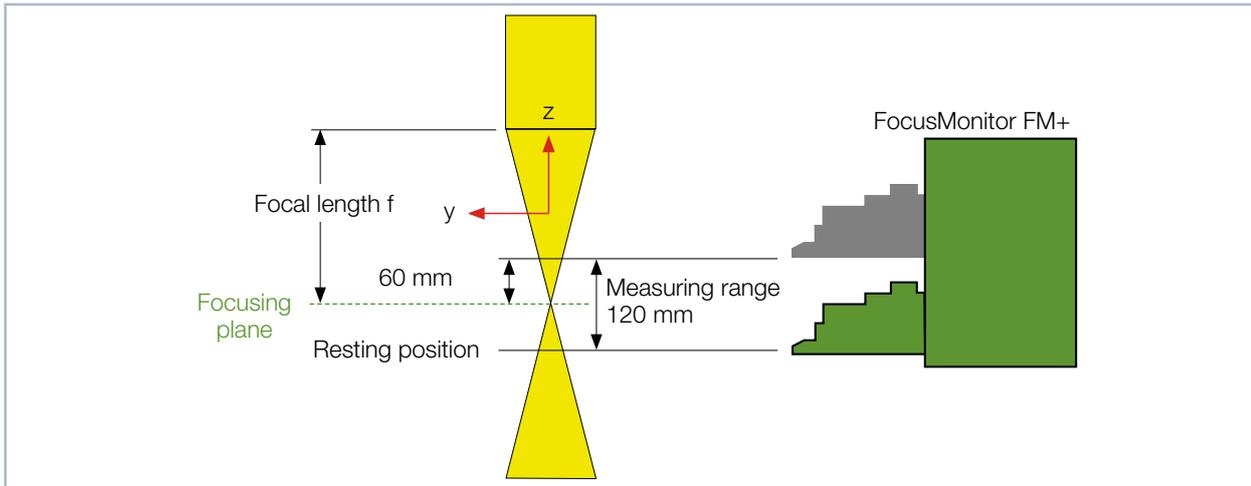

Fig. 7.6: Measuring range of FocusMonitor FM+
For the FocusMonitor FM+, the beam must enter vertically to the x-y-plane (see Fig. 7.6 on page 18).
The beam focus should be in the middle of the movement range of the z-axis. This is approx. 60 mm above the resting position of the measuring head (see Fig. 7.6 on page 18).
- The horizontal carrier will move to the position 60 mm above its resting position (see Fig. 7.6 on page 18) without a rotated measuring tip.